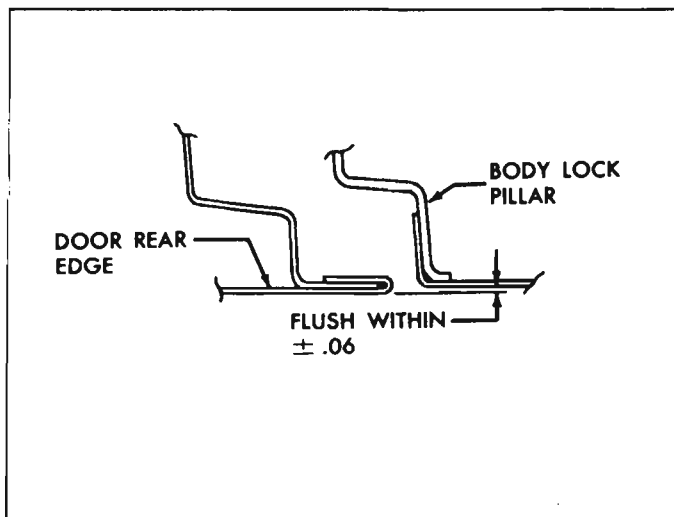

Fig. 10-41a—Door Rear Edge Surface Location
- a. Lateral adjustment—position striker assembly laterally so that in the locked position the door outer surface is flush to the pillar surface within $\pm \frac{1}{16}$ " at door rear edge (fig. 10-41a).